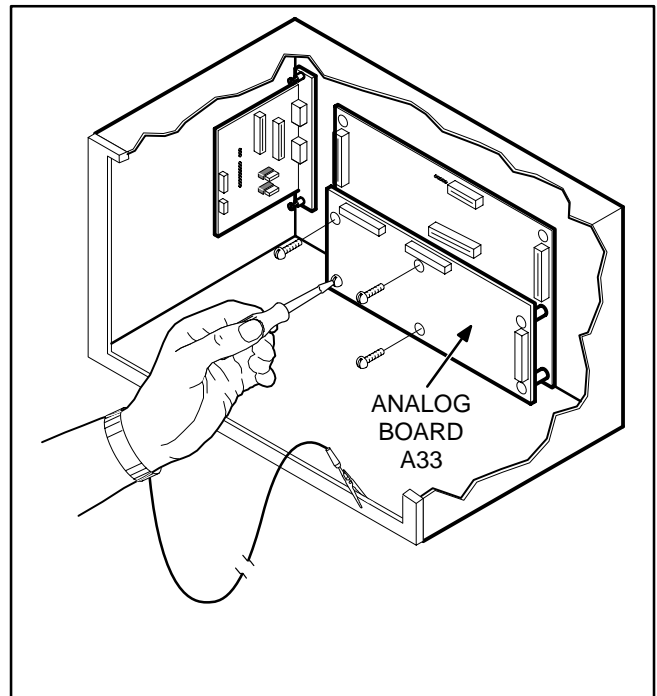

FIGURE 4. PREPARING TO MOUNT GCM
5. Use a Phillips screwdriver to remove the four analog board mounting screws shown in Figure 4.